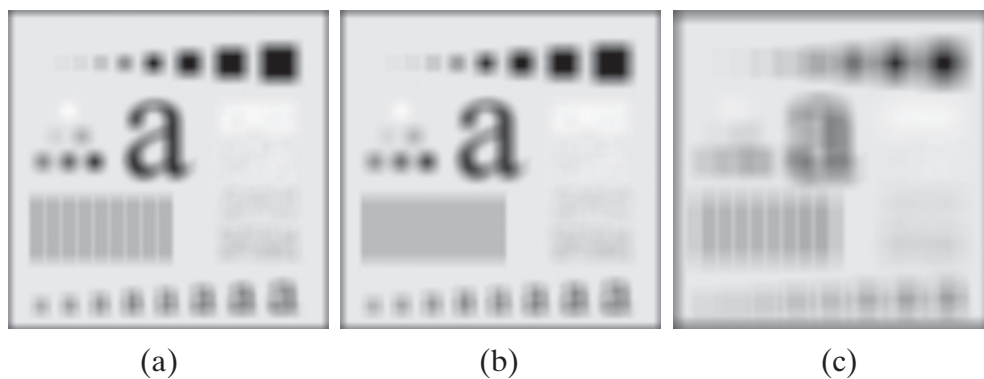

Figure 1: Three images from Problem 3.22. The vertical bars are 5 pixels wide and 100 pixels high, and their separation is 20 pixels before blurring.
1. **Problem 3.22** The three images shown (Fig. 1) were blurred using square averaging masks of sizes $n = 23, 25$, and 45 respectively. The vertical bars on the left lower part of (a) and (c) are blurred, but a clear separation exists between them. However, the bars have merged in image (b), in spite of the fact that the mask that produced this image is significantly smaller than the mask that produced image (c). Explain this.